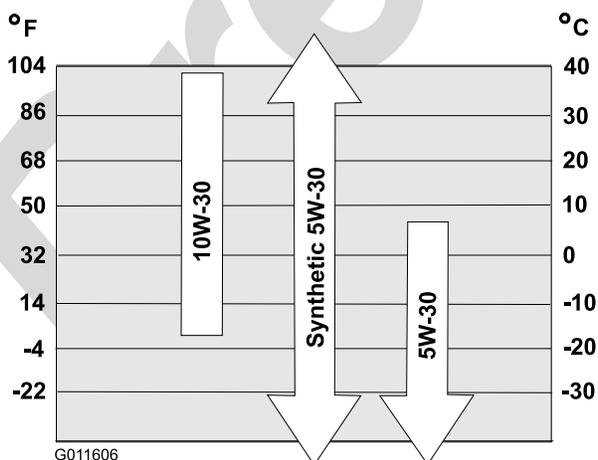

Figure 29
Use Figure 29 to select the best oil viscosity for the outdoor temperature range expected:
**Note:** Fill the engine crankcase with oil until the dipstick indicates that the engine oil level is correct as shown in Figure 29. If you overfill the engine with oil,